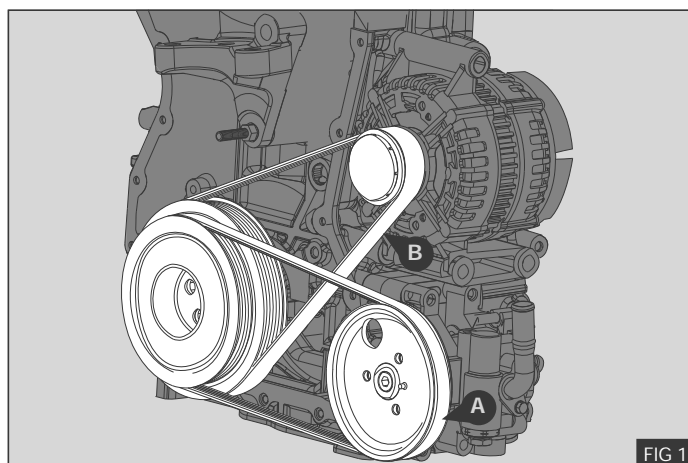

FIG 1
1. Remove the original power steering stretch self tensioning drive belt (A) using the correct removal tool (Not supplied) - Fig 1
2. Remove and discard the original alternator stretch self tensioning drive belt (B) using the correct tool (Not supplied) - Fig 1.